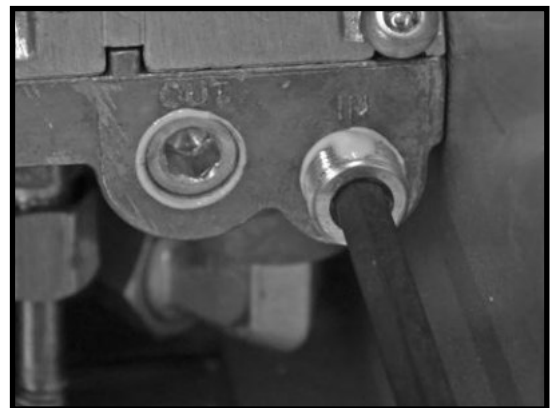

Figure 44: Testing port caps with thread sealant.
6. After testing is finished turn off gas supply, remove the pressure gauges, apply thread sealant to cap ends and re-tighten (Figure 44).